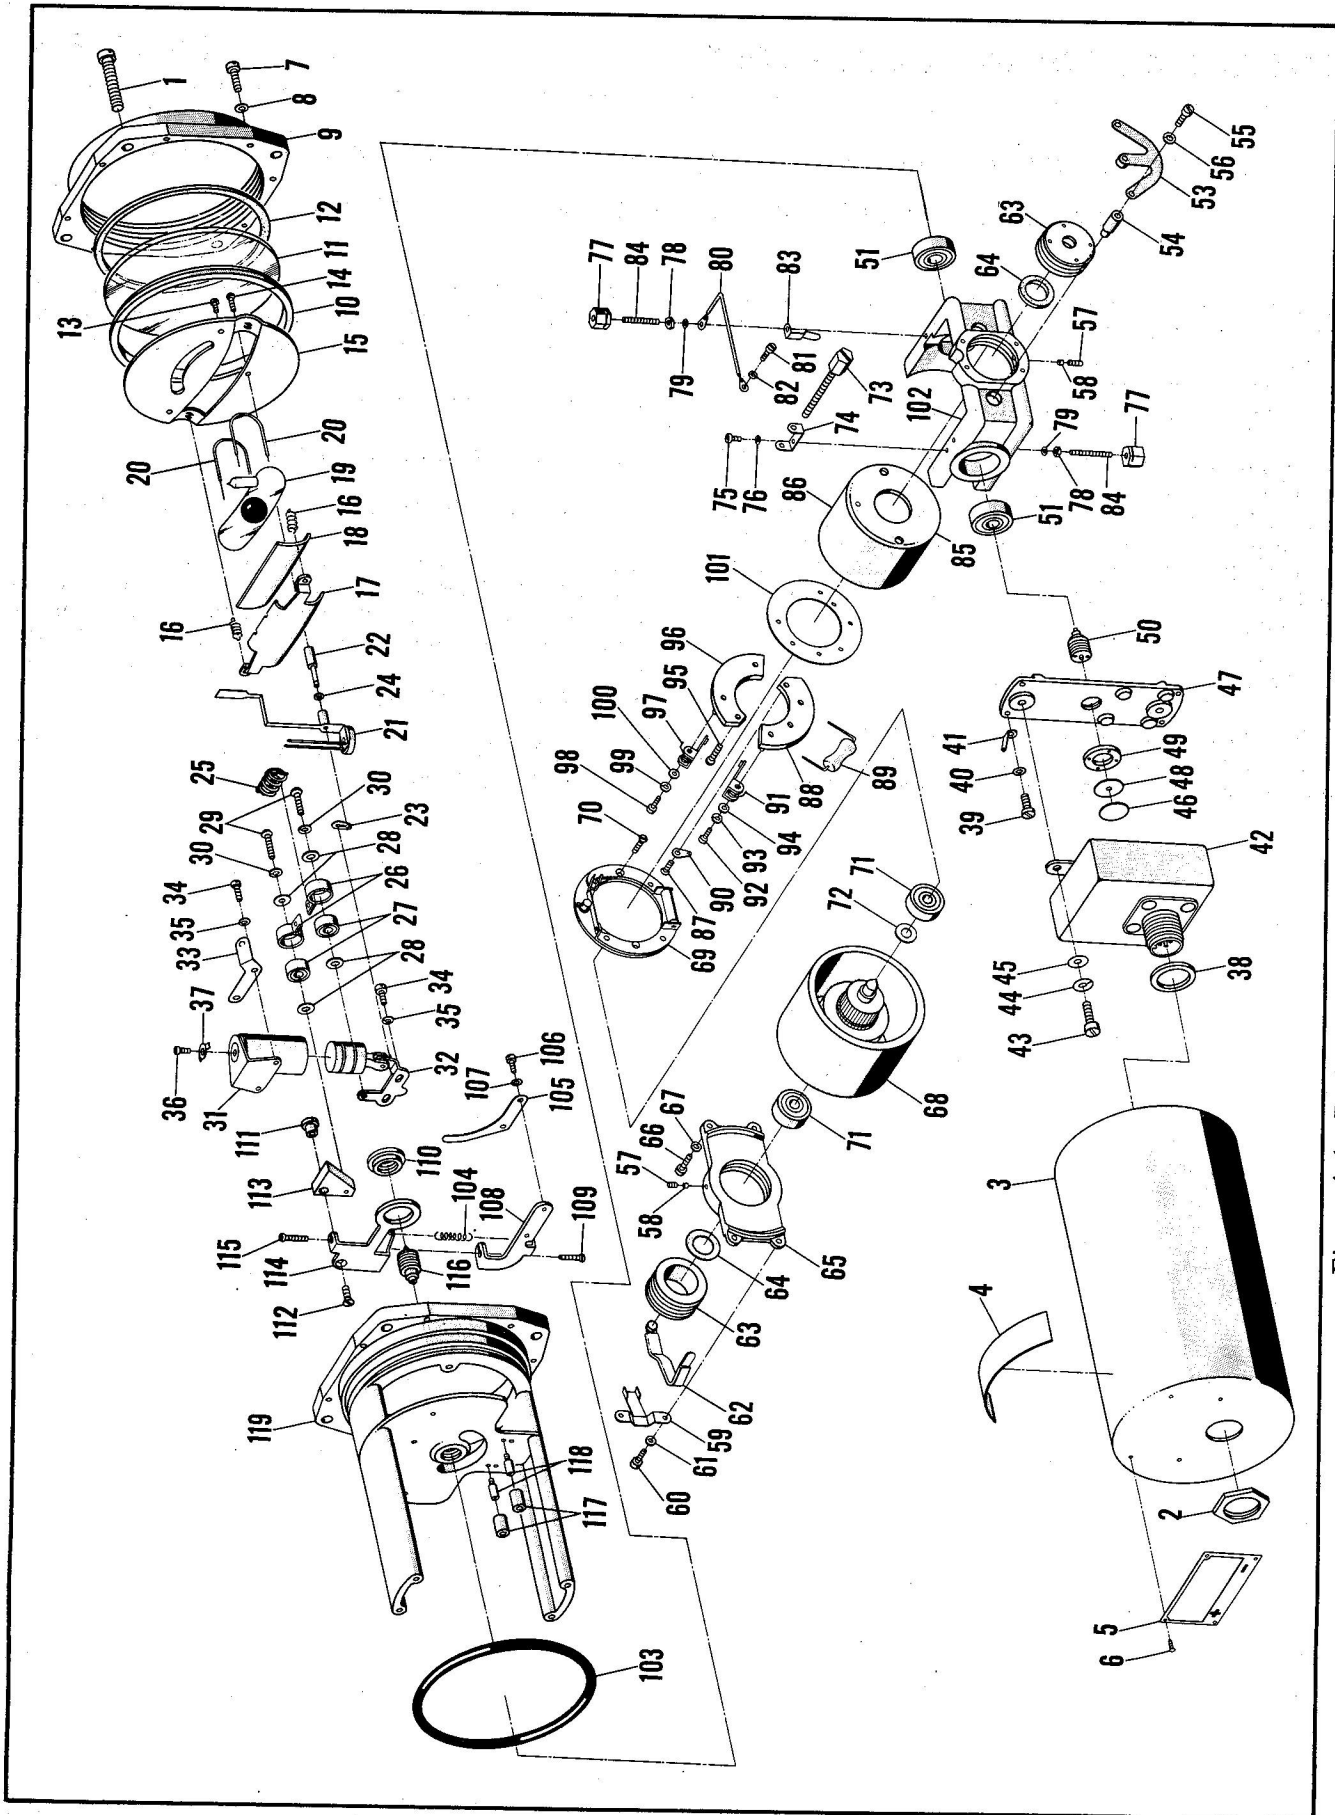

Figure 4-1. Bank and Turn Indicator Assembly, Model B4A
DISASSEMBLY. (See figure 4-1.) Same as Model B4 except that filter assembly (42) replaces individual radio noise filtering components used on Model B4 and insulation (46) is used between insulating washer (48) and the filter assembly. Remove and discard spring washer between contact pivot assembly (116) and ball bearing (51), if present.
KEY FOR FIGURE 4-1